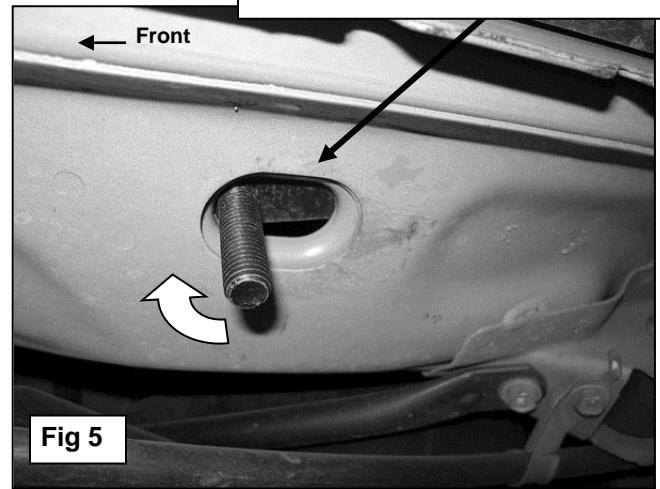

Fig 5
7. Moving to the rear of the vehicle, insert (1) 12mm x 50mm Bolt Plate into factory oval hole in the floor panel, **(Figure 5)**. Rotate the Bolt Plate 90-degrees or until it stops spinning to properly support both sides of the flat surface on the Bolt Plate.